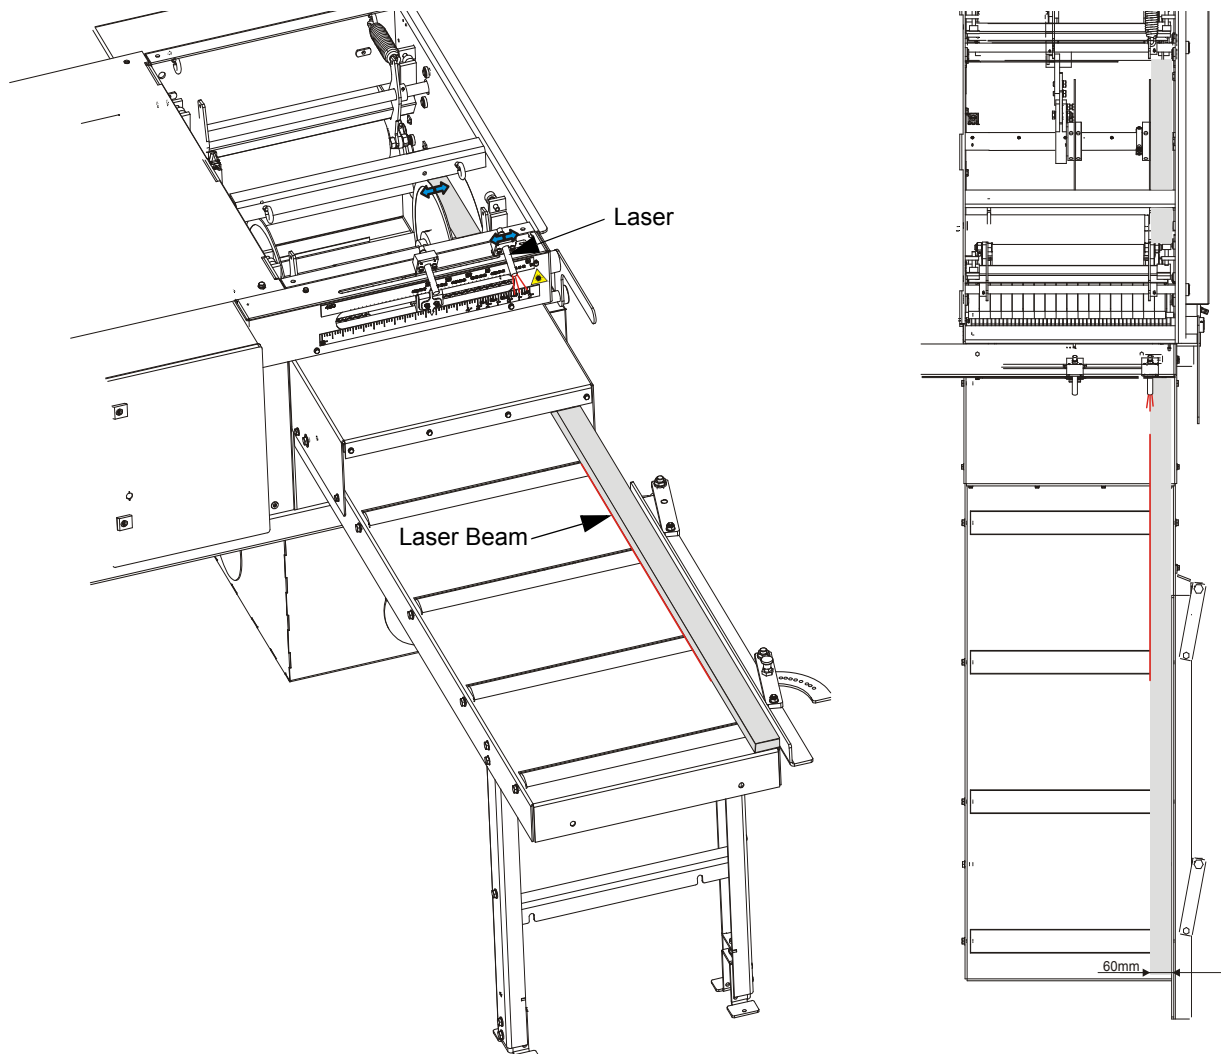

FIG. 6-7
3. Place a 60mm wide bar along the outside edge of the blade and so that the bar is aligned with the 0 mark on the scale and the bar meets the fence. See Figure 6-7.
See Figure 6-7.